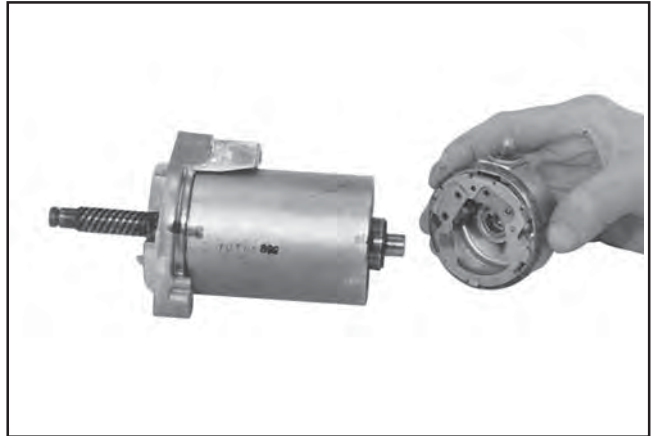

Figure 8-42. Removing End Cap with Brush Plate.
5. Remove the commutator end cap and brush plate assembly. See Figure 8-42.